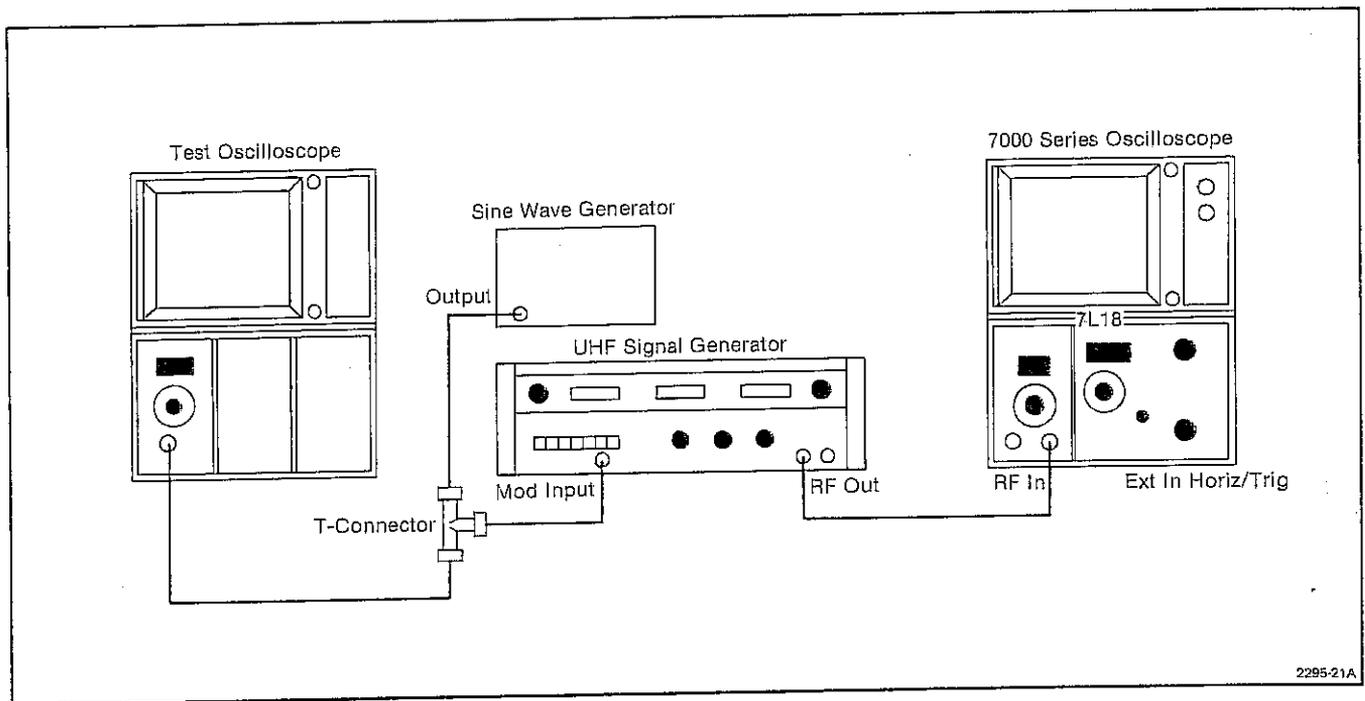

Fig. 4-13. Triggering Operation and Sensitivity Test Setup.
a. Connect the test setup as shown in Fig. 4-13. Set the 7L18 front panel controls as follows: